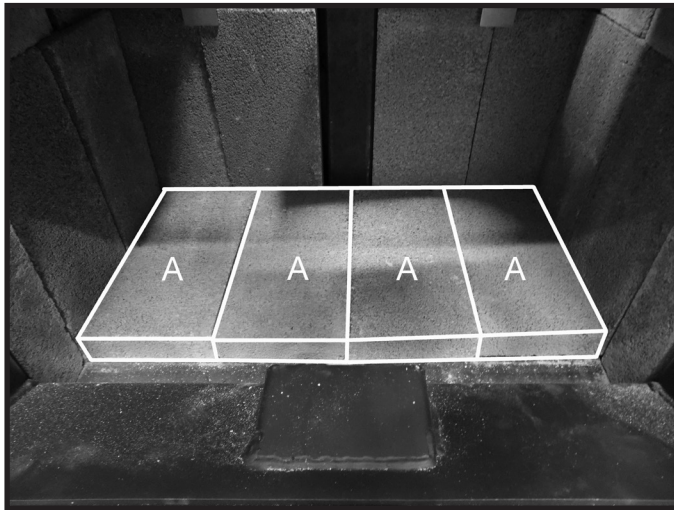

Figure 18: Four floor bricks in place.
- Place four "A" firebricks on the firebox floor as shown in Figure 18.